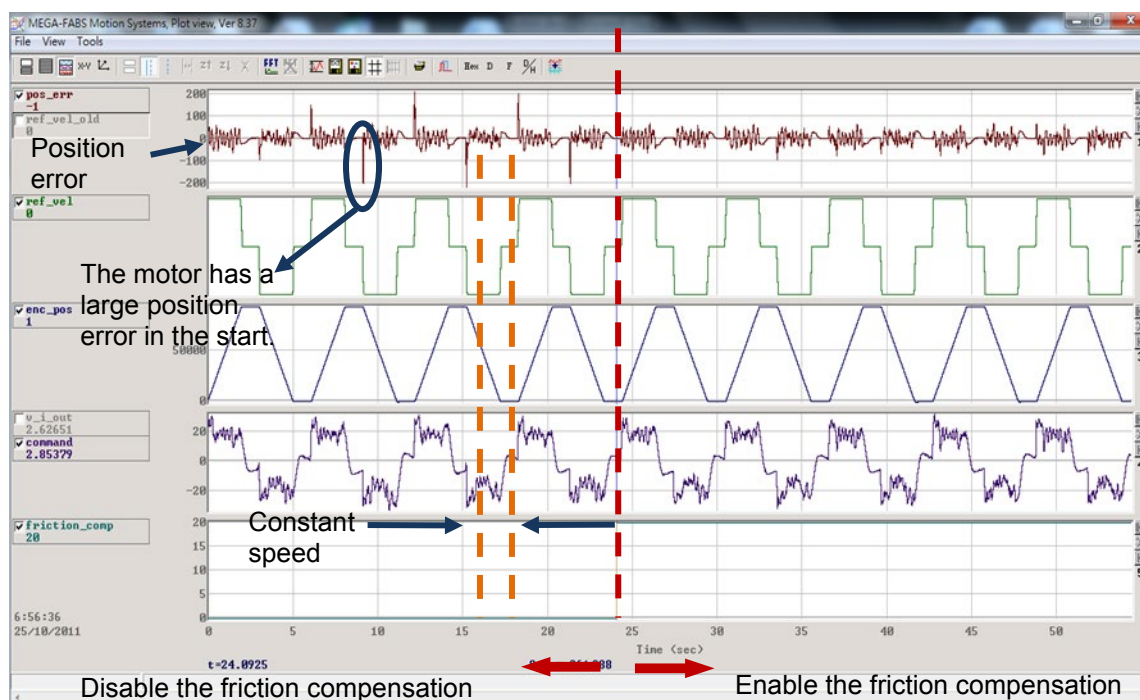

Figure6.6.7.2
- Step 7: Observe whether “Position Error” is reduced at the start of motor movement. As shown in the right side of figure 6.6.7.2, it can be found that the friction compensation does reduce the position error.